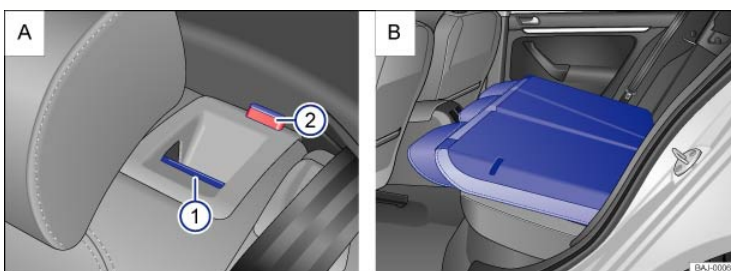

Fig. 99 : Rear seat bench: Release button ① and red mark on the indicator ② : Seat backrest folded forward.
- Pull the release button ⇒ Fig. 99① forward while folding the rear seat backrest forward.
- The rear seat backrest is unlocked if the red mark ⇒ Fig. 99② can be seen on the indicator.
- The red mark on the indicator ⇒ Fig. 99② should no longer be visible.
- If the red mark on the indicator ⇒ Fig. 99② is visible, this indicates that the backrest is not latched into place. Always check to make sure that the red mark is not visible whenever the rear seat backrest is in the upright position.